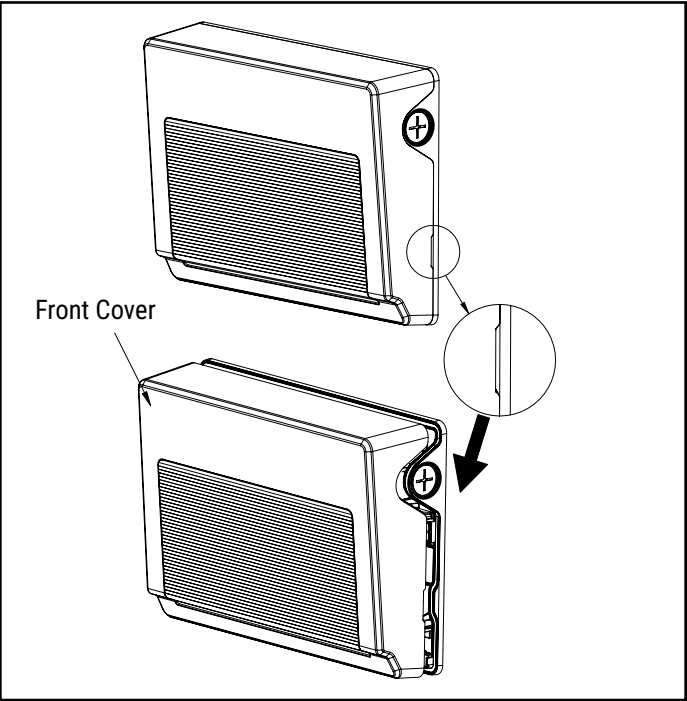

Figure 1
- 1. Using a flathead screwdriver, carefully pry open the front cover on both sides and separate it completely from the rear heatsink. (Figure 1).